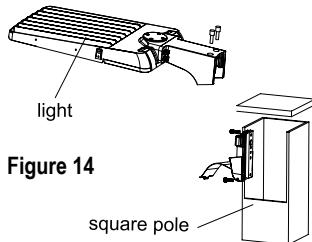

Figure 14
1. Remove the two (2) bolts at the top of the mounting arm. Remove the mounting bracket portion of the arm. Secure it to the pole using the mounting plate. (see Fig. 14)